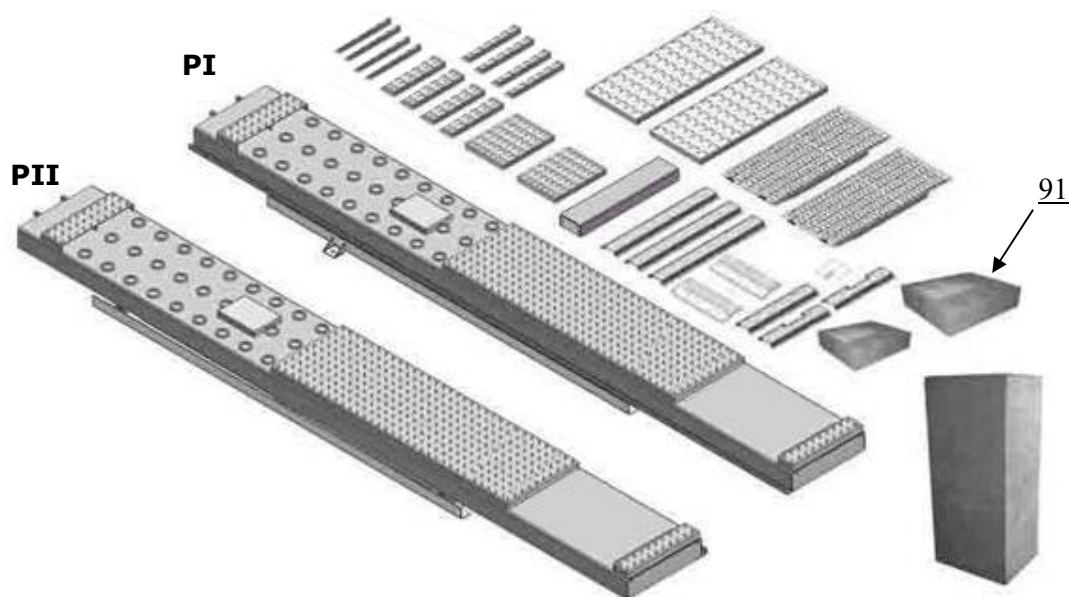
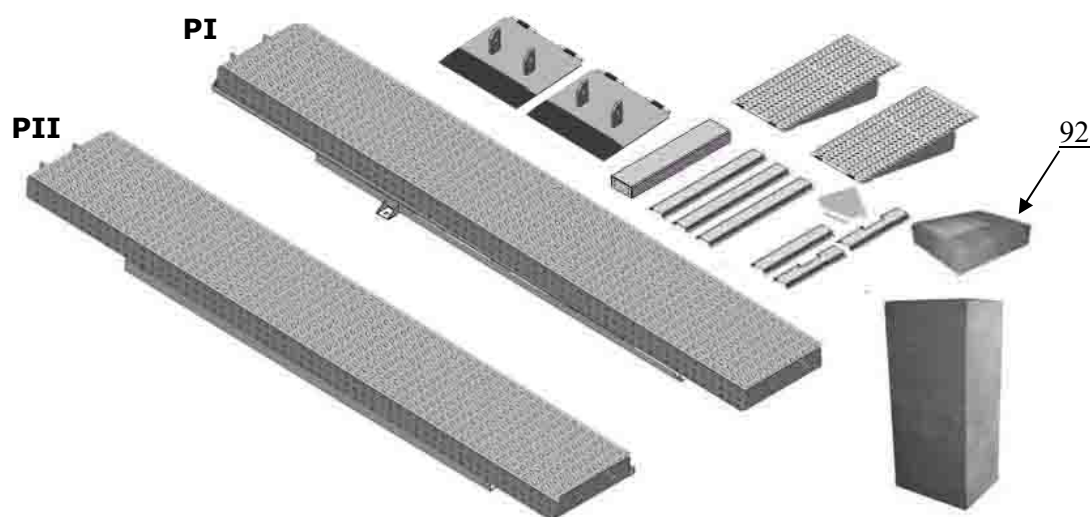

Fig. 11
Fig. 12
2.1 Parts for on surface installation (**See Fig.11, Fig.12**)